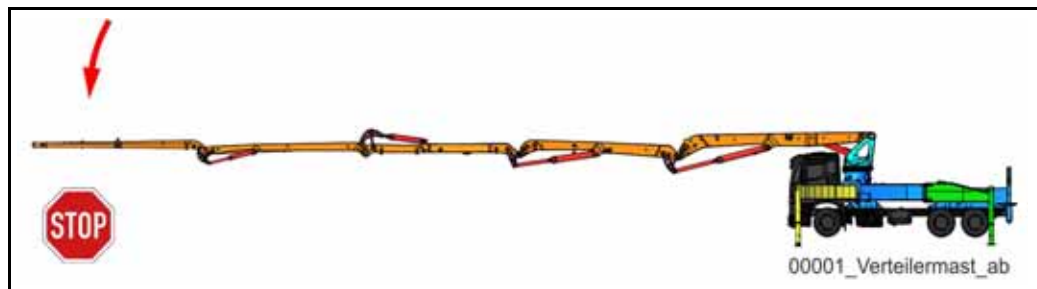
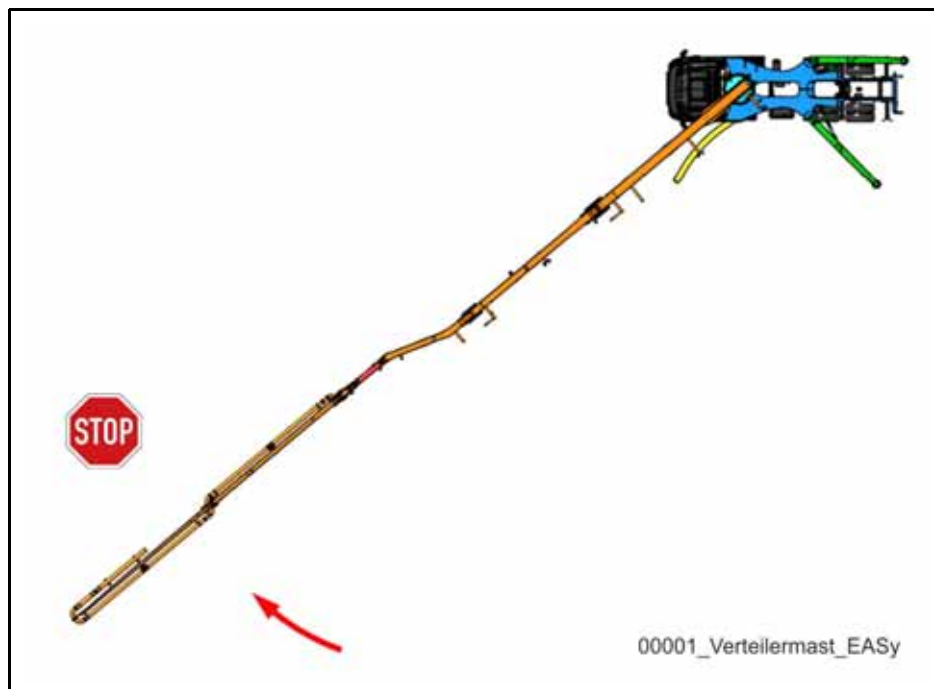
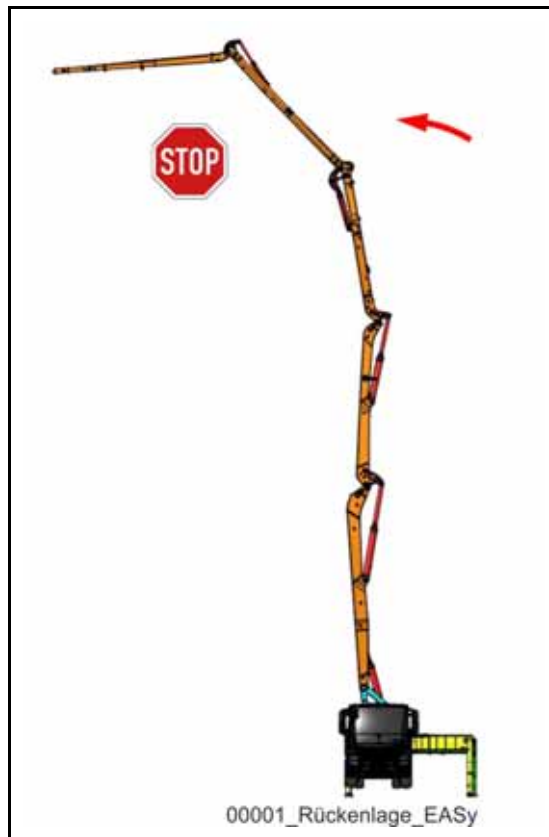

Fig. 174 Placing boom extended, movement stopped
Fig. 175 Placing boom extended, turning movement with EASy
Fig. 176 Placing boom in backwards position with EASy
- Move the placing boom carefully and at a reduced speed when approaching the end position of the placing boom, e.g. **(Fig. 174)**, **(Fig. 176)** and **(Fig. 175)**.